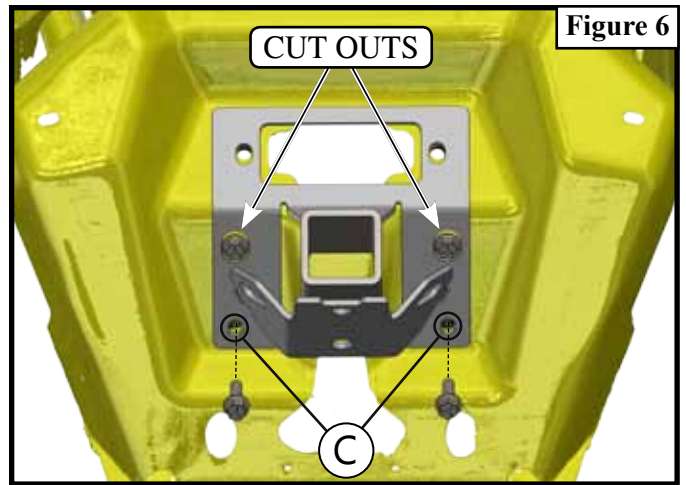

Figure 6
2. Install lower bolts (2.5) through receiver, bumper, KFI winch mount, and secure with nuts (2.4). Do not tighten hardware yet. See **Figures 6, 7, & 8**.